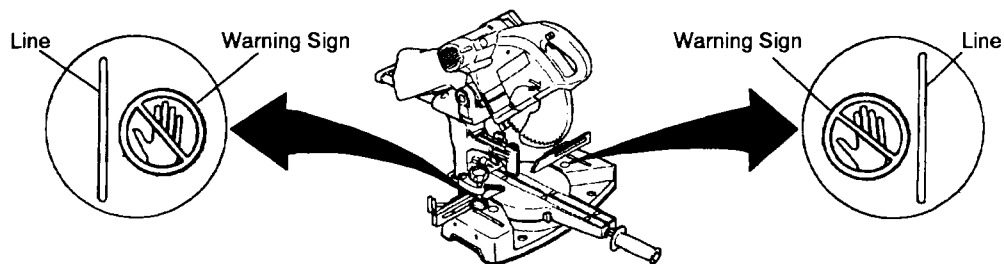

Fig. 16
* Never place your limbs inside of the line next to warning sign while the tool is being operated. This may cause hazardous condition (see Fig. 16).